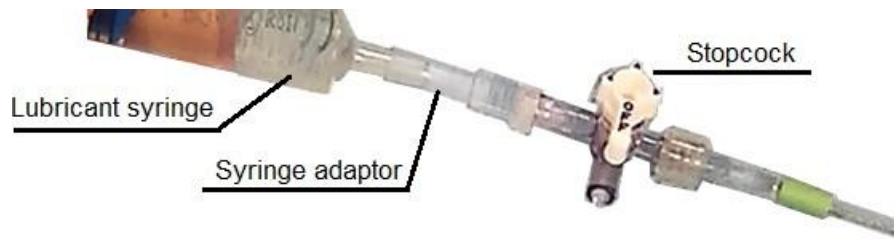

Figure 16: Lubricant syringe with adaptor and stopcock
1. Connect a three-way stopcock and the syringe adapter to both the green and black-labeled channels (*Figure 16*).
2. Connect low-viscosity lubricant syringes to the syringe adapters by pressing the taper on the syringe into the syringe adapter tubing (*Figure 16*).